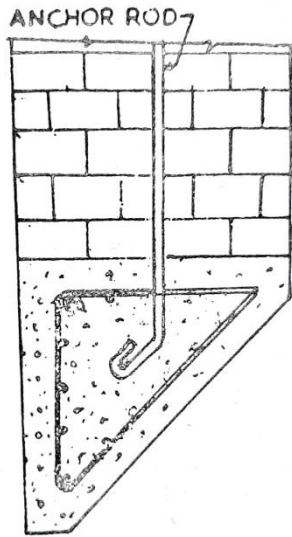

Fig. 7.5. Well curb
**(a) Well curb.** It is circular in plan having a wedge shaped support at the bottom as shown in Fig. 7.5. It can be made of timber or R.C.C. It is designed to support the weight of the well with partial support at the bottom of the cutting edge.